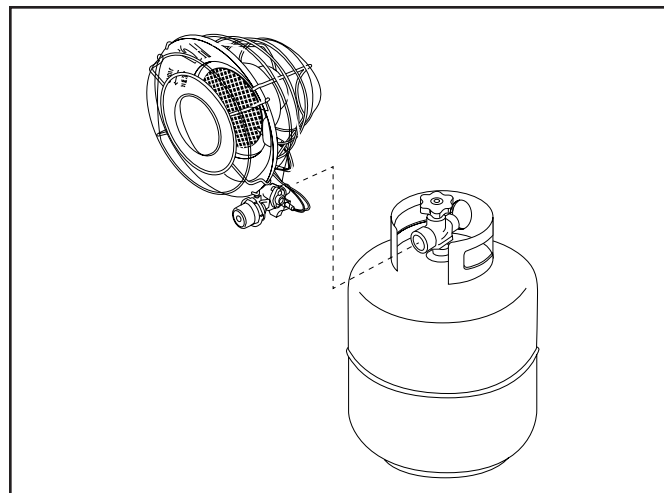

Figure 2a.
- Insert regulator connector into tank valve outlet fitting and turn left (counter clock-wise) until fully tightened. Do not overtighten. (See Figure 2a)